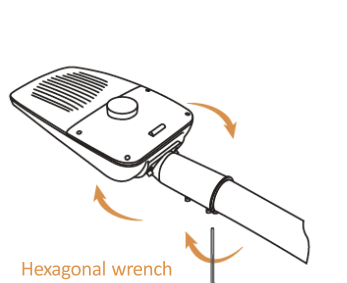

Figure 3
③ Adjust the angle as shown in Figure 3.